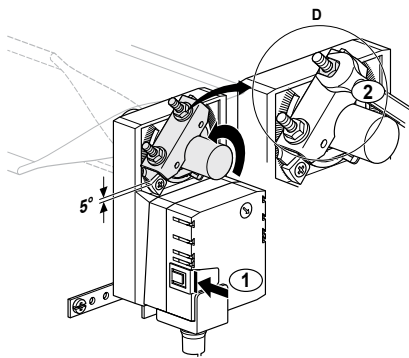

FIGURE 22
Confirm the damper is now fully closed, but the actuator is 5° from fully closed, (1/16” to 1/8” between stop and clamp), See **FIGURE 22**. This is called “pre-loading” the actuator. When the actuator is powered and sent to the closed position it will put its full torque on the shaft compressing the edge and blade seals. The actuator is electronically protected from overload and will not be damaged.
- 2) Loosen the nuts on the universal clamp. Press the manual override button and rotate the clamp to about 5° from fully closed, (1/16" to 1/8" between stop and clamp). Tighten the two nuts on the universal clamp with a 10 mm wrench (See **FIGURE 22**).